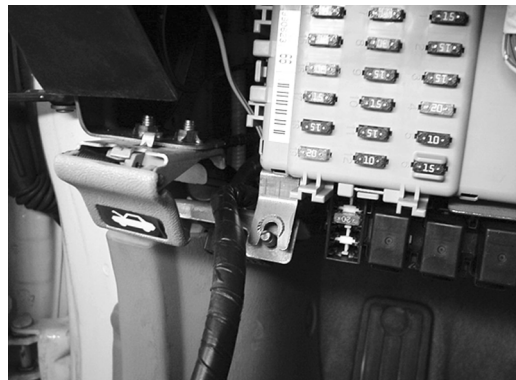

Figure 3
6. If the vehicle is equipped with the VDC system, the lower fuse box OE nut will first have to be loosened. Then gently pull the fuse box forward and the attachment bracket downward. Carefully slip the harness through and then retighten the nut (See figure 3).